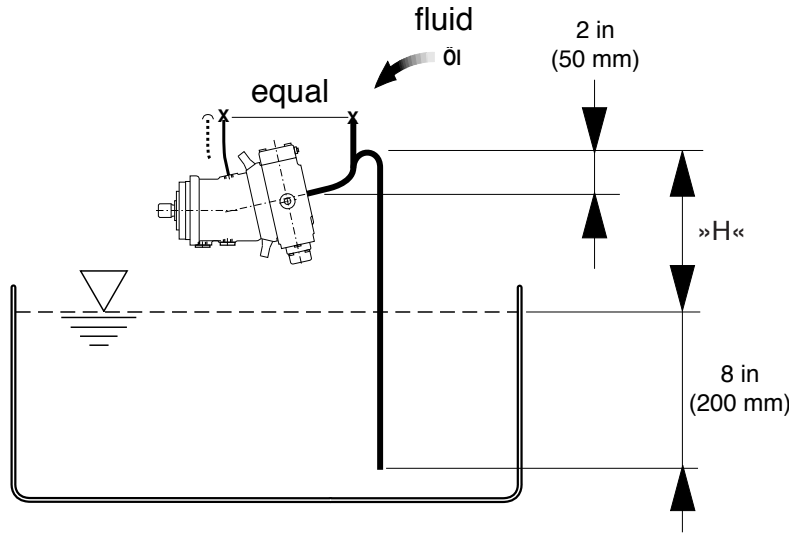

Fig. 6:
- Horizontal installation only with bent axis to top, see figure 6